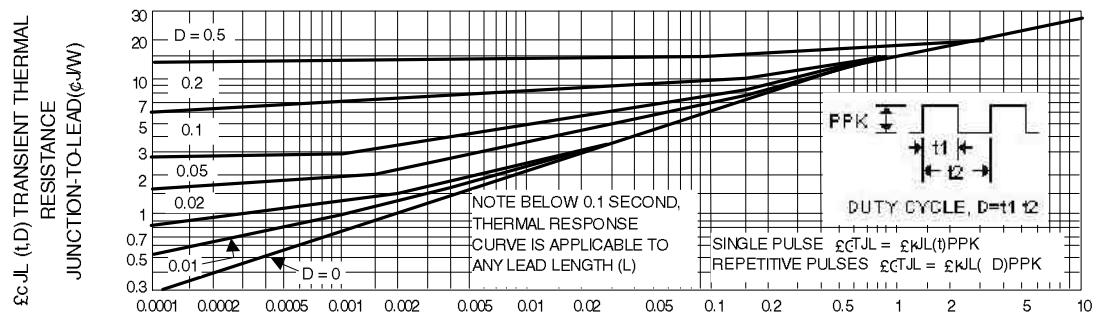
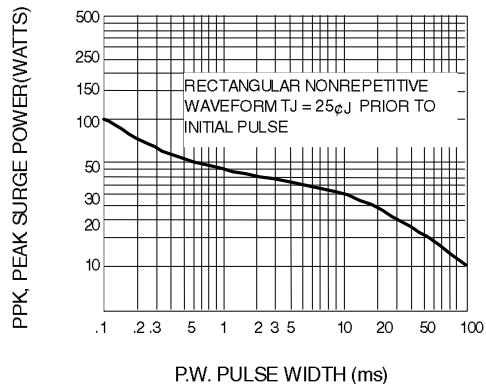
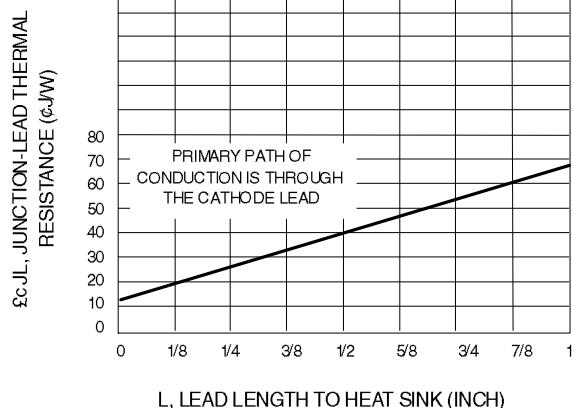

Fig. 2-TYPICAL THERMAL RESPONSE L,
Fig. 3-MAXIMUM SURGE POWER
Fig. 10-TYPICAL THERMAL RESISTANCE
4. SURGE CURRENT (I_r) NON-REPETITIVE - The rating listed in the electrical characteristics table is maximum peak, non-repetitive, reverse surge current of 1/2 square wave or equivalent sine wave pulse of 1/120 second duration superimposed on the test current, I_{ZT}, per JEDEC standards, however, actual device capability is as described in Figure 3.
$\frac{1}{2}GT_{JL}$ is the increase in junction temperature above the lead temperature and may be found from Figure 2 for a train of power pulses or from Figure 10 for dc power.
Data of Figure 2 should not be used to compute surge capability. Surge limitations are given in Figure 3. They are lower than would be expected by considering only junction temperature, as current crowding effects cause temperatures to be extremely high in small spots resulting in device degradation should the limits of Figure 3 be exceeded.